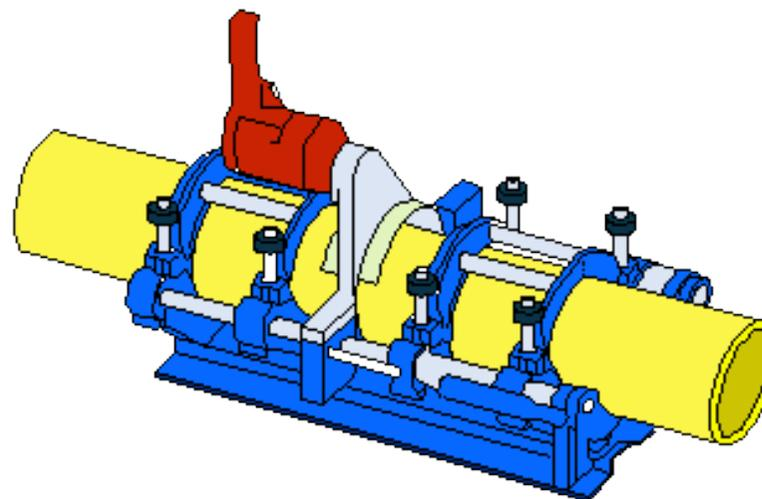

Figure E2 – Trimming of PE main
24. At this stage trimming can be discontinued. Figure E2.